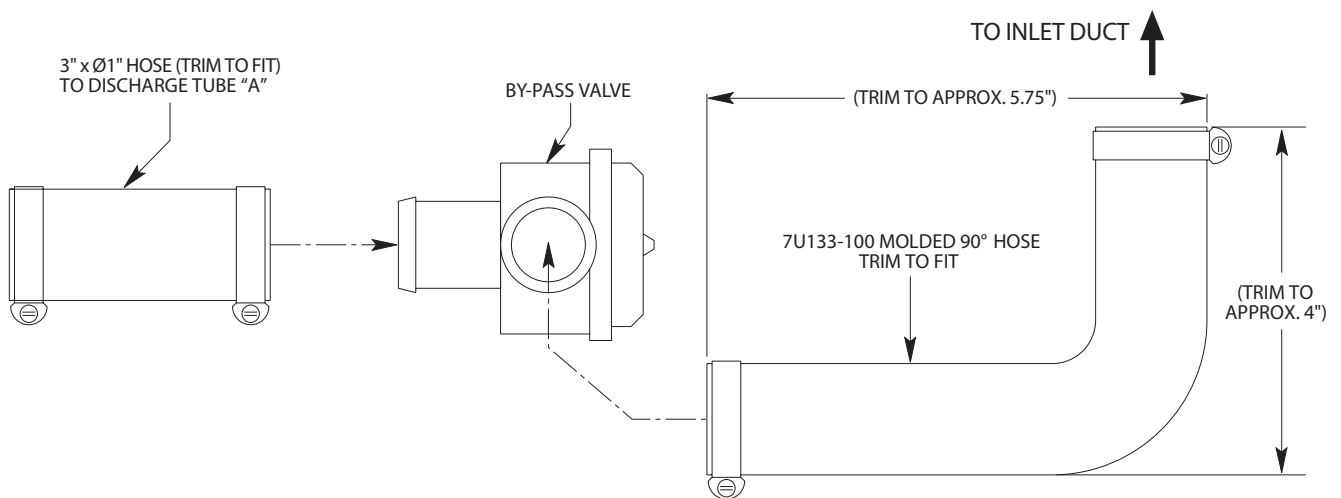

Fig. 3C-a
2. Locate the 1" molded rubber 90° elbow and cut approximately 6" from the long end and 1" from the short end. Attach the long end to the by-pass valve discharge and secure using the #16 hose clamps provided. (See Fig. 3C-a, 3D-d.)